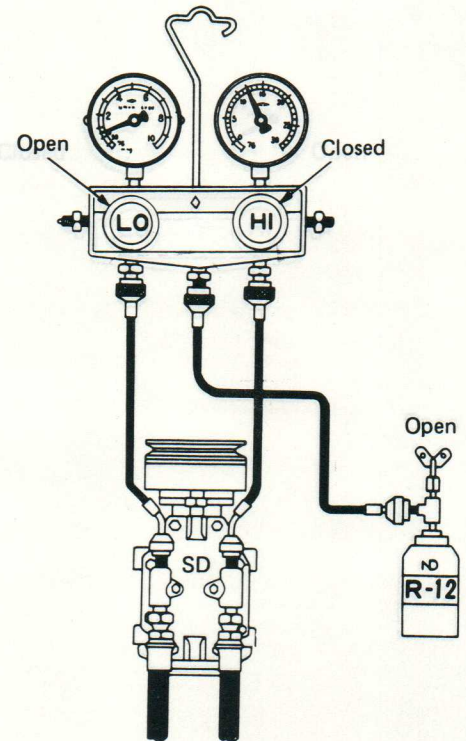

Figure 224-2 (REVISED 7/6/87)
4. Start engine, turn air conditioner to maximum cool, high blower, and run at about 1500 rpm. Compressor will draw vapor into system. DO NOT turn R-12 drum upside down (Figure 224-2). Liquid refrigerant will now damage compressor.